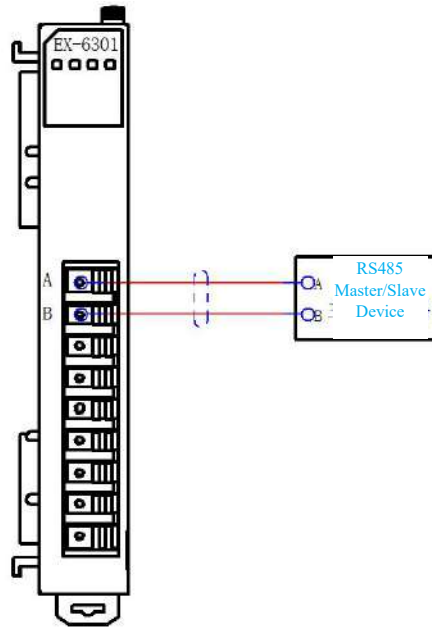

Figure 4-19 Wiring diagram of the EX-6301 module
- Figure 4-19 shows the wiring diagram of the EX-6301 module.